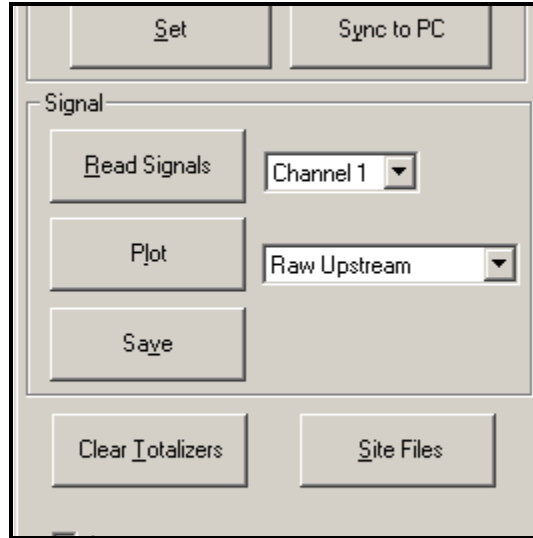

Figure 28: Active Signal Options
1. Click on the *Read Signals* button. (If the meter is a multi-channel instrument, open the Channel drop-down menu and click on the desired channel.) After a moment, the *Properties* window appears similar to Figure 28 below.